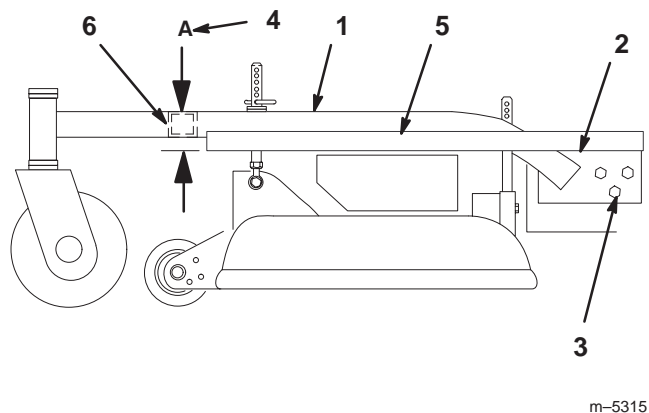

Figure 47
2. Place a long straight edge on top of the engine deck as shown in figure 47.
3. At the carrier frame cross tube, measure location **A** height (Fig. 47). This measurement must be 2–13/16 in. (71 mm), plus or minus a 1/4 in. (6 mm)
5. Loosen the carrier frame mounting bolts on both sides of the machine (Fig. 47).
6. Align the carrier frame and engine deck to match 2–13/16 in. (71 mm), plus or minus a 1/4 in. (6 mm) at location **A** (Fig. 47).